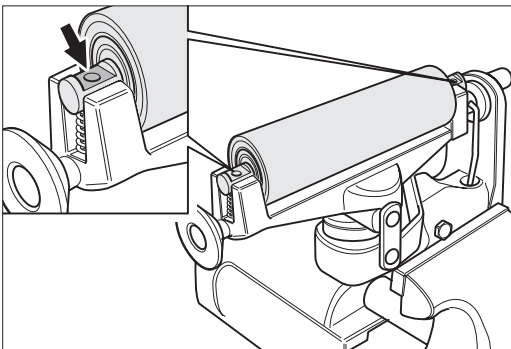
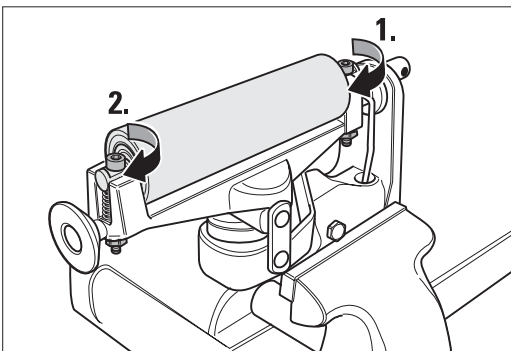

Fig. 43 Insert the new tensioning roller, ensuring that the surfaces on the shaft ends are pointing upwards.
Fig. 44 Tighten the side without spring (1) and then the side with spring (2), so that ...
- 4 Insert the compression spring in the tensioning roller. Ensure that the surfaces on the shaft ends of the roller are pointing upwards (Fig. 43)! Tighten the screw of the unsprung bearing pedestal side (Fig. 44).
- 5 Turn the screw on the sprung side of the tensioning roller far enough so that the tensioning roller is positioned parallel to the upper part of the drive unit (Figs. 44 and 45).